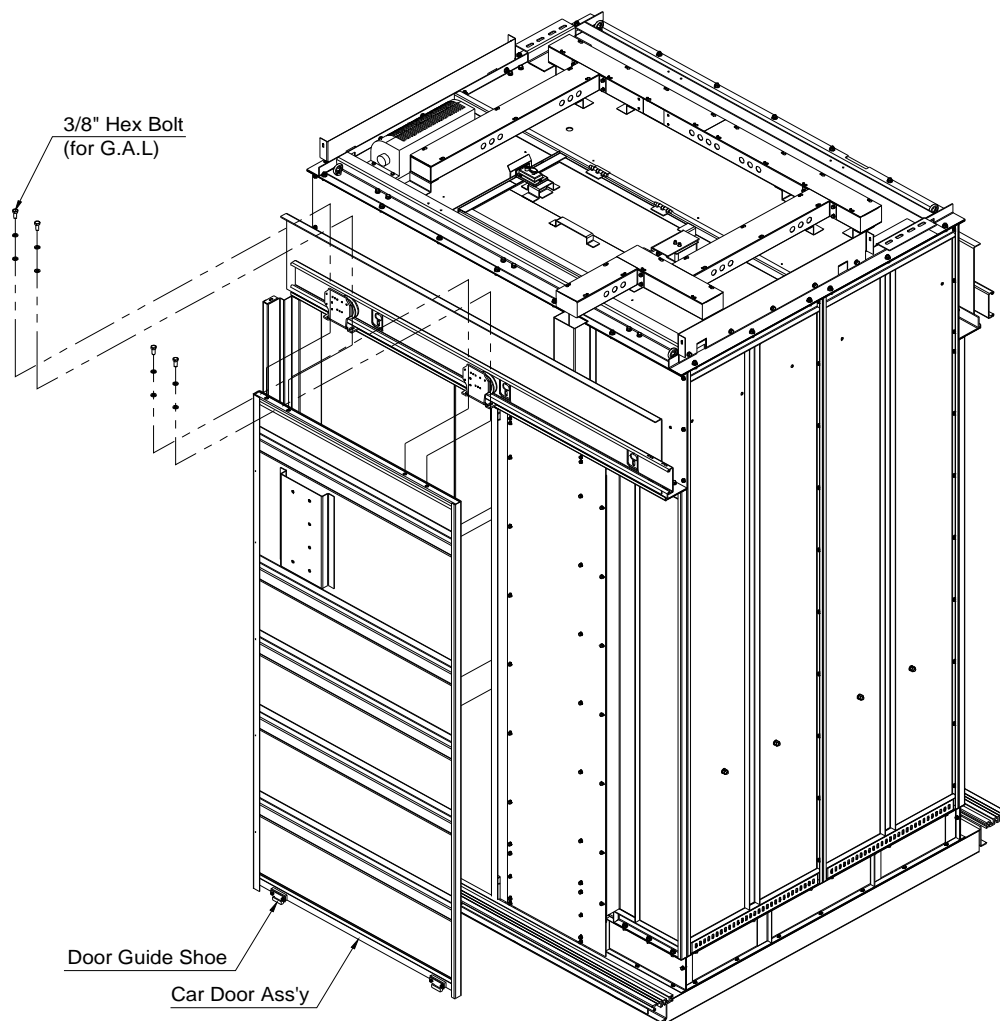

**Fig. 7-3-4-A. INSTALLATION CAR HEADER (FRONT and REAR ENTRANCE)**
(1) Assemble Car Header to Car Transom. (Fig. 7-3-4-A.)